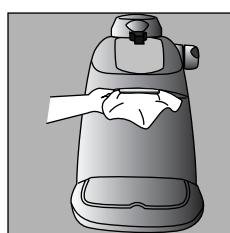

fig. 20
- clean the boiler with a damp cloth (fig. 20);